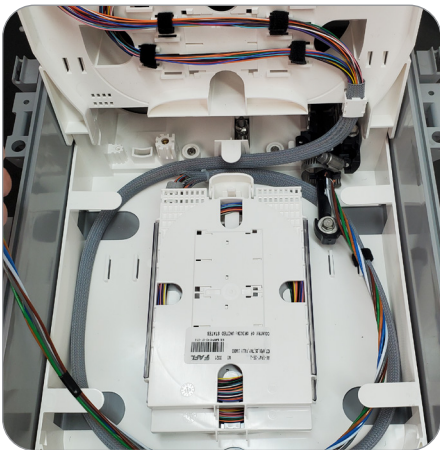

Figure 73
1. Take the previously prepared cable entering the box and begin routing subunits or buffer tube slack around the inside of the box (**Figure 73**). Ensure these are routed under the Cable Attachment Unit (**Figure 74**).